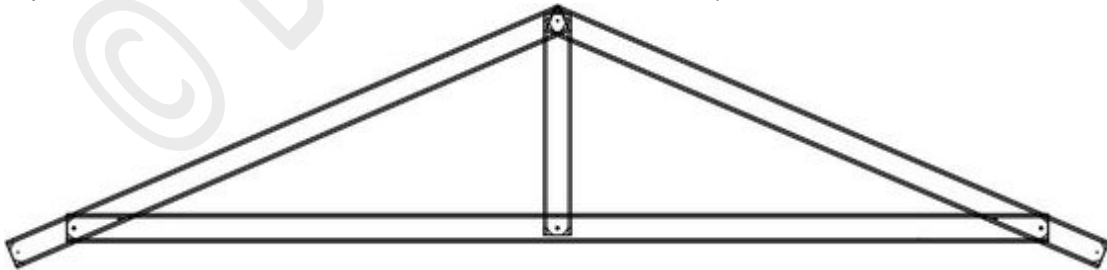

Figure 5.8 Saddle Truss
**5.10) Saddle Truss:** A-truss with the top chords cut at the heel to form a foot cut. It is used to form a valley line when two roof planes intersect. Saddle trusses are supported by trusses or rafters below. (Refer to Figure 5.8.)